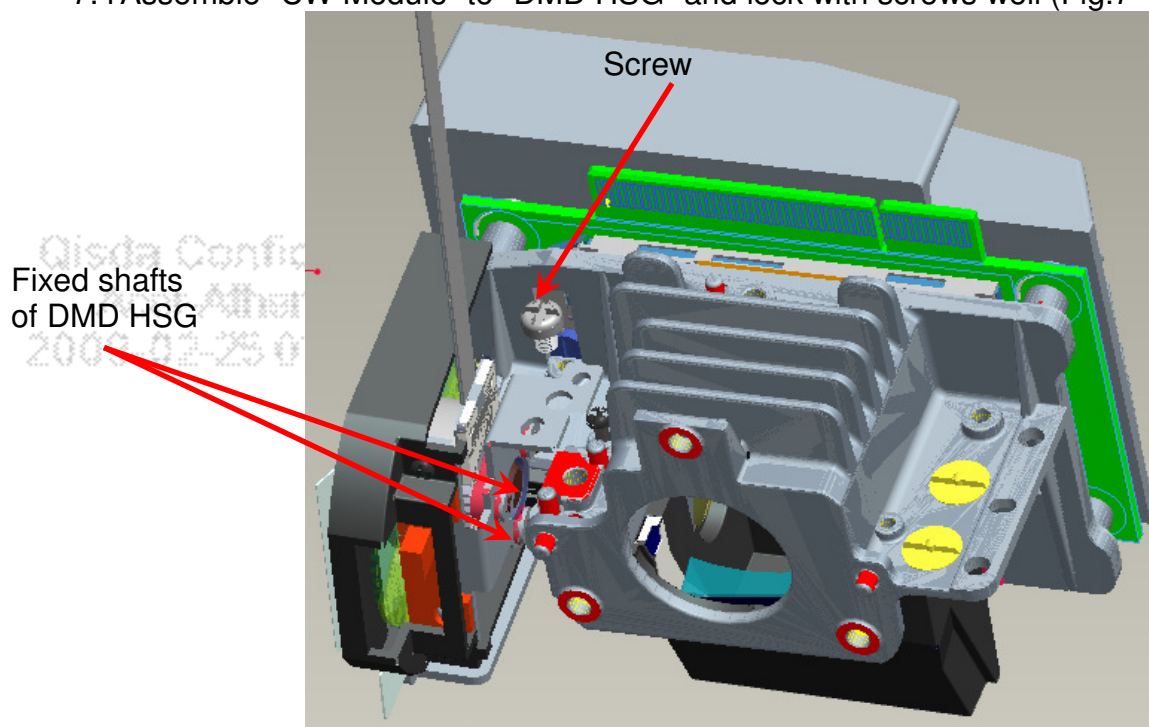

Fig.7-4
7.4 Assemble "CW Module" to "DMD HSG" and lock with screws well (Fig.7-4).